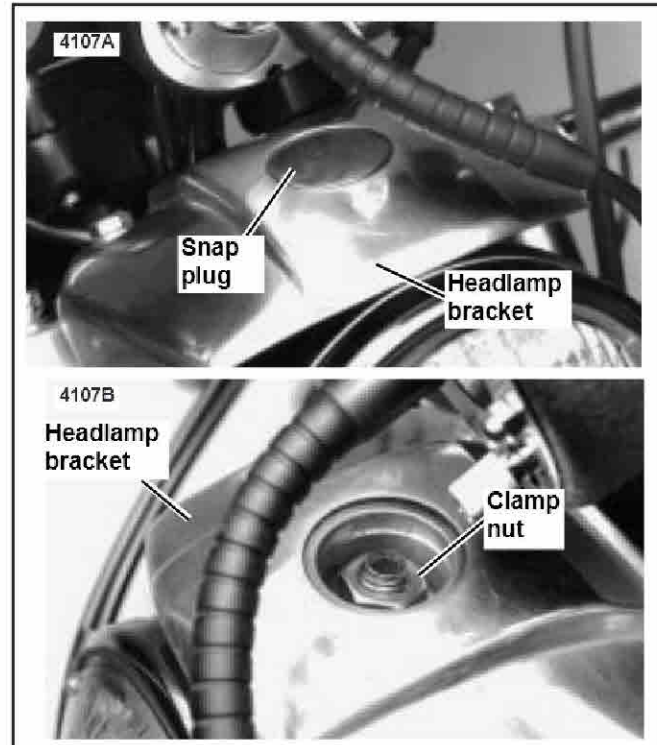

Figure 1. Detach Headlamp From Bracket
2. See Figure 1. Remove snap plug at top of headlamp bracket. Remove headlamp clamp nut, lockwasher and rounded washer to detach headlamp housing assembly from headlamp bracket.
17. See Figure 1. Tighten clamp nut to 10-20 ft-lbs (14-27 Nm). Install snap plug at top of headlamp bracket.